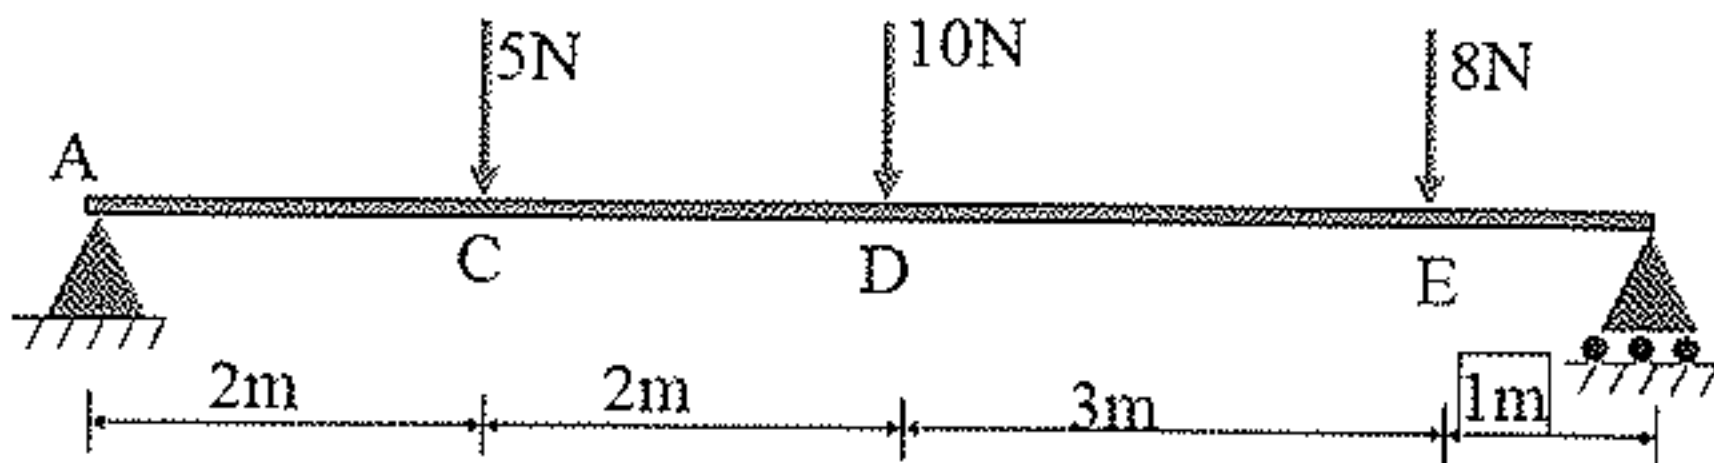

Figure 1
- Draw shear force and bending moment diagrams [SFD and BMD] for a simply supported beam subjected to three point loads as shown in the Figure 1.